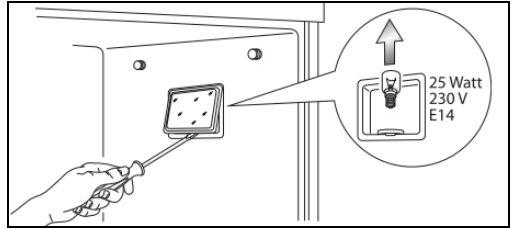

Fig. 11
- Open the cover (fig. 11) of the interior lighting and remove the damaged lamp. Turn in the new lamp and fit the cover. Then, insert the guiding rails and screw them in.